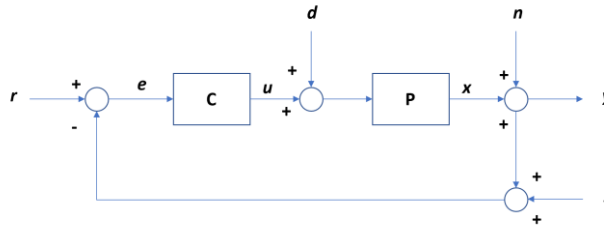

Figure 1: Block Diagram of the System
In this part of the assignment, the plant model (P) of the ideal motion system (transfer function $\frac{x_2}{F_1}$ derived in Q3, Part 1) is considered. The general block diagram of the system is presented in Fig.1.